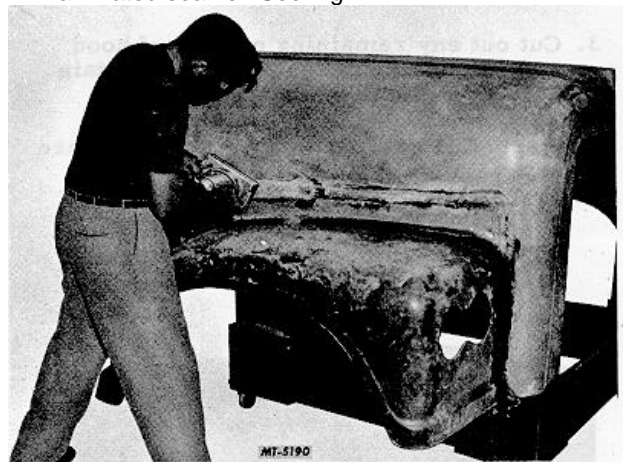
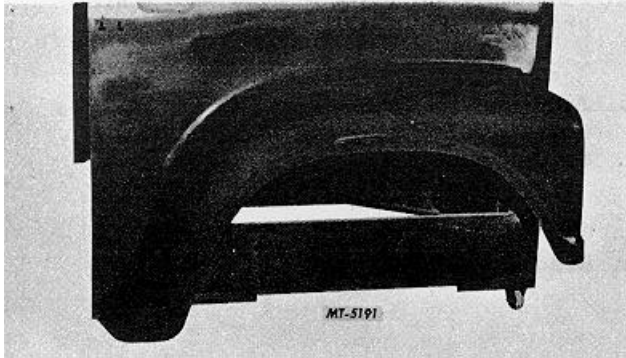

Fig. 12 Service Fender and Hood Refinishing.
Fig. 13 Repaired Hood and Fender Assembly.
14. Grind or sand all outside hood and fender joined laminated seams. See Fig. 12
15. With plastic putty fill any existing low spots or surface cracks with plastic putty. 16. Sand the entire exterior smooth, using a #400 grit paper. See Fig. 12. Clean surface with acetone or lacquer thinner. Apply prime coat and follow with standard automotive refinishing procedures. See Fig. 13.